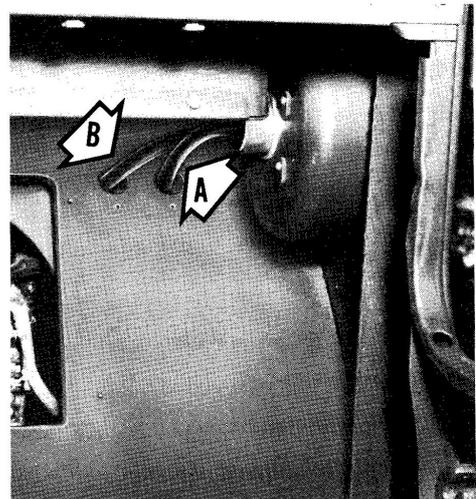

Fig. 11. (A) Negative lead routed through floorboard. (B) Positive lead routed through floorboard.
- d. Pass the positive and negative leads of the slave receptacle through the floorboard and into the engine compartment as shown in Fig. 11.